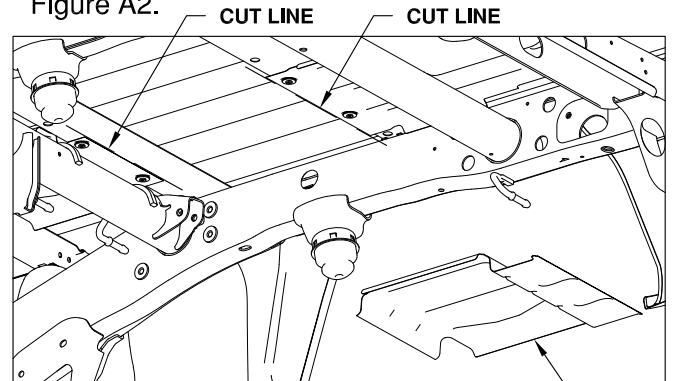

Figure A2: View Under Bed Looking at Heat Shield Removal Area
5. **Modify heat shield.** Cut out the section of the heat shield directly over the exhaust between the two bed cross members that are above the rear axle, see Figure A2.